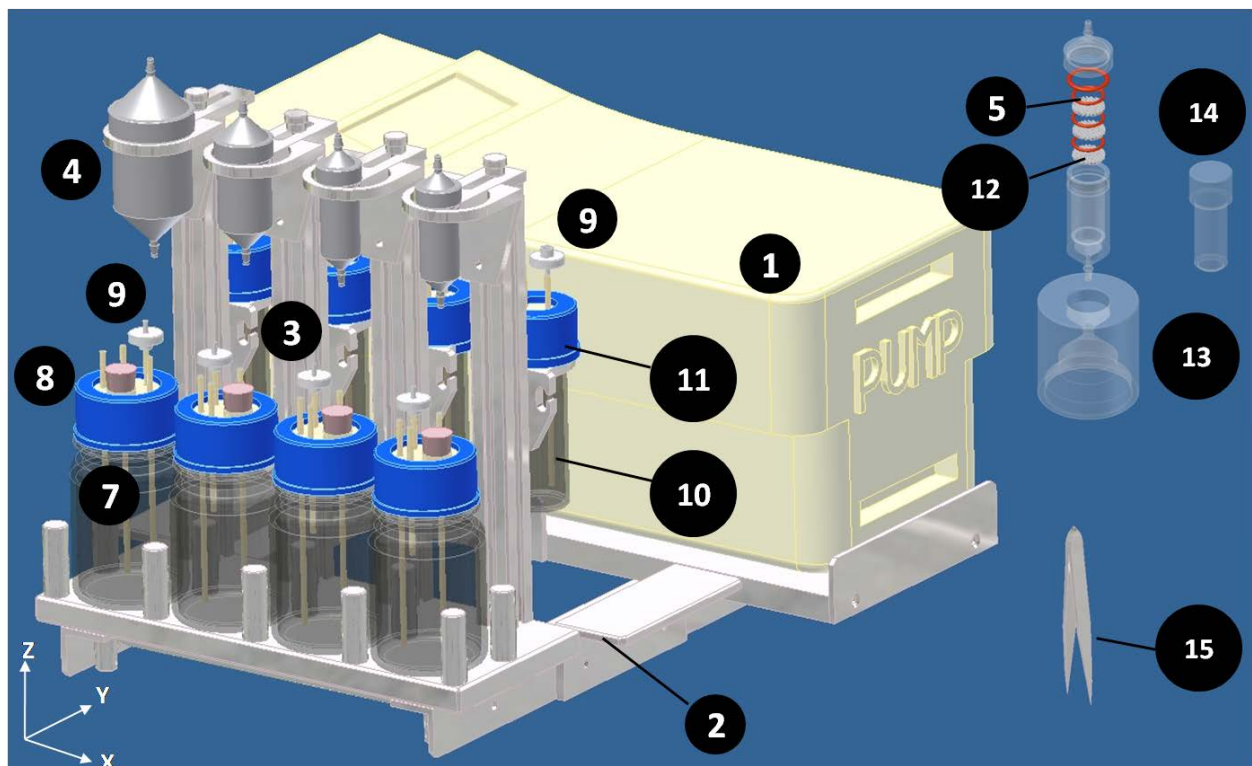
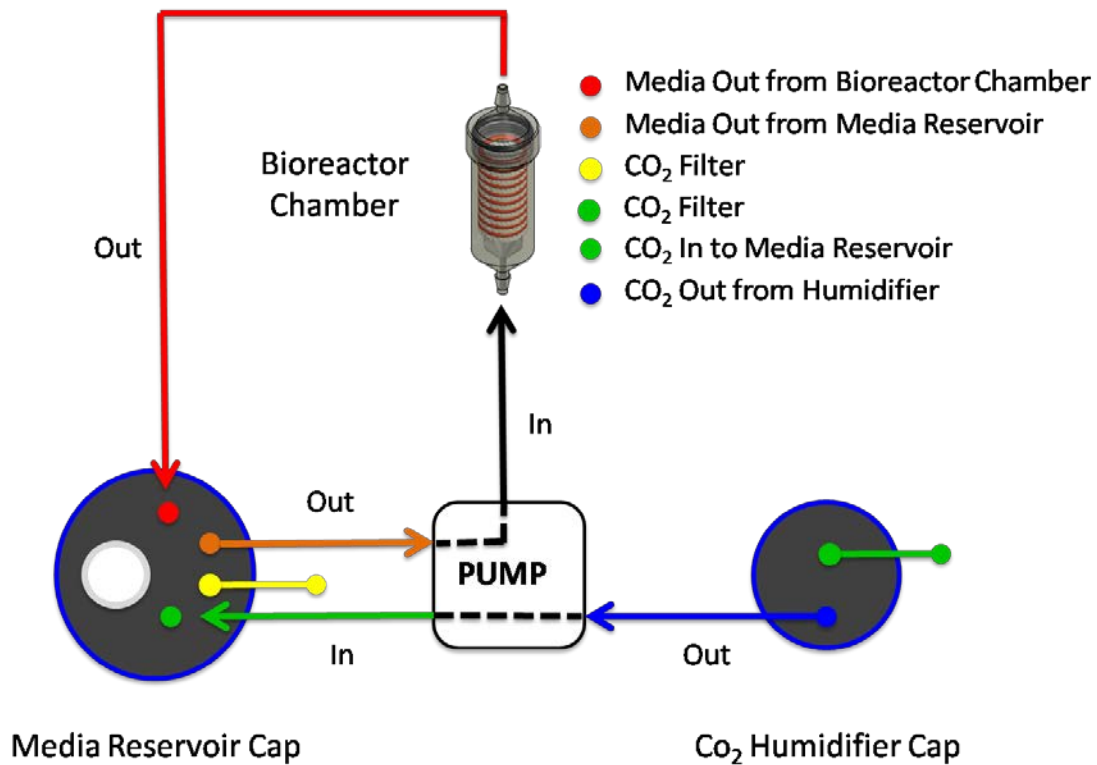
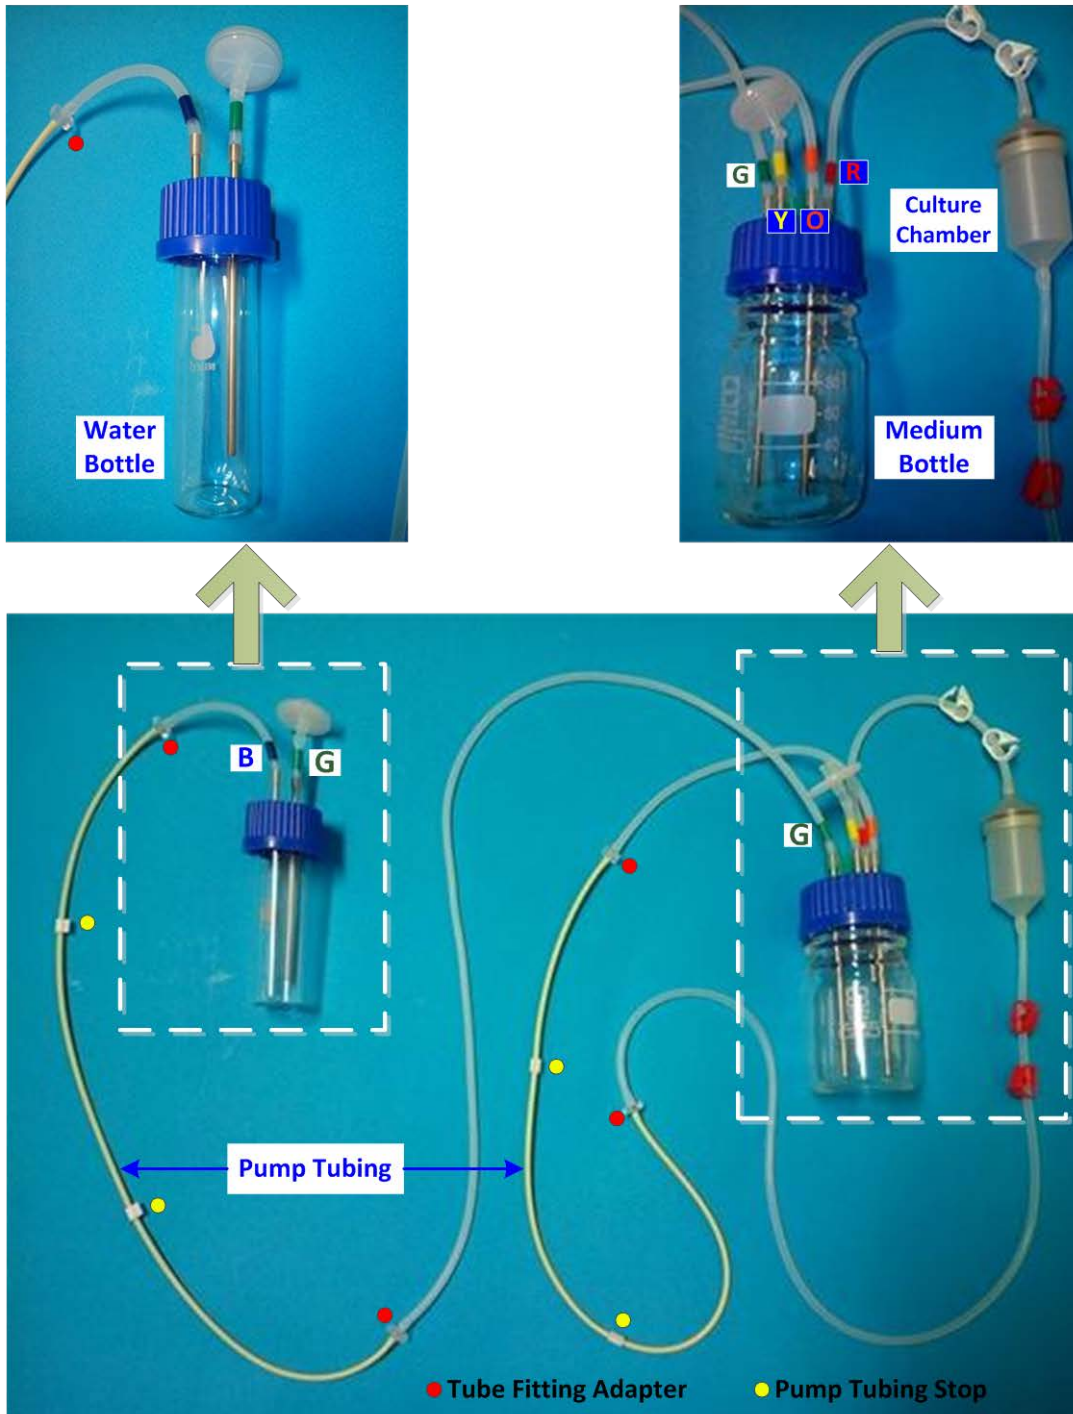

Figure 2. Illustration of bioreactor Parts. Bioreactor's max dimensions Width (X) ~14", Depth (Y) ~13", and Height ~12"(Z).
Figure 3. Tubing loop Assembly.
Figure 8. Tubing Connection Circuit for the system
Figure 2 and Table 1 give a detailed list of part number and description of all individual components of the 3D Perfusion Bioreactor.
media reservoir bottles are non-sterile. Before autoclaving, mark the autoclaving bags containing the tubing with the number associated to the position of the media reservoir bottle to avoid tubing mismatch. Assembly of the Perfusion Bioreactor should be done in a sterile hood. Refer to figure 2 for visual description of bioreactor tubing assembly:
2. Place all the sterile parts inside the hood. Wipe the aluminum stand holder, pump and pump's cassettes (Unlock the cassette channels from the pump by clicking downward on the oval mound on each cassette (distal end of the cassette) with 70% Ethanol. Insert the aluminum stand holder into the aluminum base frame (Refer to Figure 2 for assembly). Media reservoir bottles (item 7) should be placed in the front of the aluminum stand holder (item 3).
3. Place the CO₂ humidifier chambers (item 11) on the back holders in the aluminum stand. Fill each humidifier bottle with 25-ml of sterile water.
4. 3D Perfusion Tubing Bioreactor Description. From this point on refer to figure 3 for assembly of media and CO₂/O₂ tubing. The tubing has been labeled with autoclavable color tape to match with the imprinted letter on the media reservoir (Red (R), Orange (O), Yellow (Y), Green (G)) and CO₂ humidifier metal caps (Green (G) and B (Blue)). Start tubing assembly with reservoir bottle 1 (from left to right). Spray the autoclave bags and bottles with 70% ethanol and wipe. Below is an itemized description of the tubing, followed by detailed description on tubing assembling.
- Pre-assembled Bioreactor Chamber Medium Loop. This tubing is composed of small clear tubing, orange-labeled on one end (Orange arrow (Fig. 3)). This piece is attached to beige bioreactor tubing (Dotted black lines (Fig. 3)), which connects to large clear tubing (Black arrow (Fig. 3)) with red media stoppers on one end (Media In towards bioreactor chamber). As pre-assembled tubing, the Media In towards bioreactor chamber (Red solid line, Fig. 3) is connected to medium size clear tubing using a large plastic tube fitting. The medium size clear tubing has white media stoppers and red-labeled at the end. This will connect to the media reservoir cap (Red arrow (Fig. 3)).
- Pre-assembled Reservoir CO₂/O₂In. This tubing is composed of small blue-labeled end clear tubing connecting the humidifier cap (Blue arrow (Fig.3)). This piece is attached to beige bioreactor tubing (Dotted black lines (Fig. 3)), which connects to large green-labeled clear tubing connecting to the media reservoir cap (Green arrow (Fig. 3)).
- CO₂/O₂Filters. Short Clear Tubing to attach Syringe Filters (Yellow and Green solid lines with circle ends (Fig. 3)).
The following diagram (Figure 8) shows the tubing connection circuit for the system, which should be used in conjunction with the schematic diagram (Figure 3). To connect the tubing circuit for each bottle/chamber location, also refer to Figure 2A.